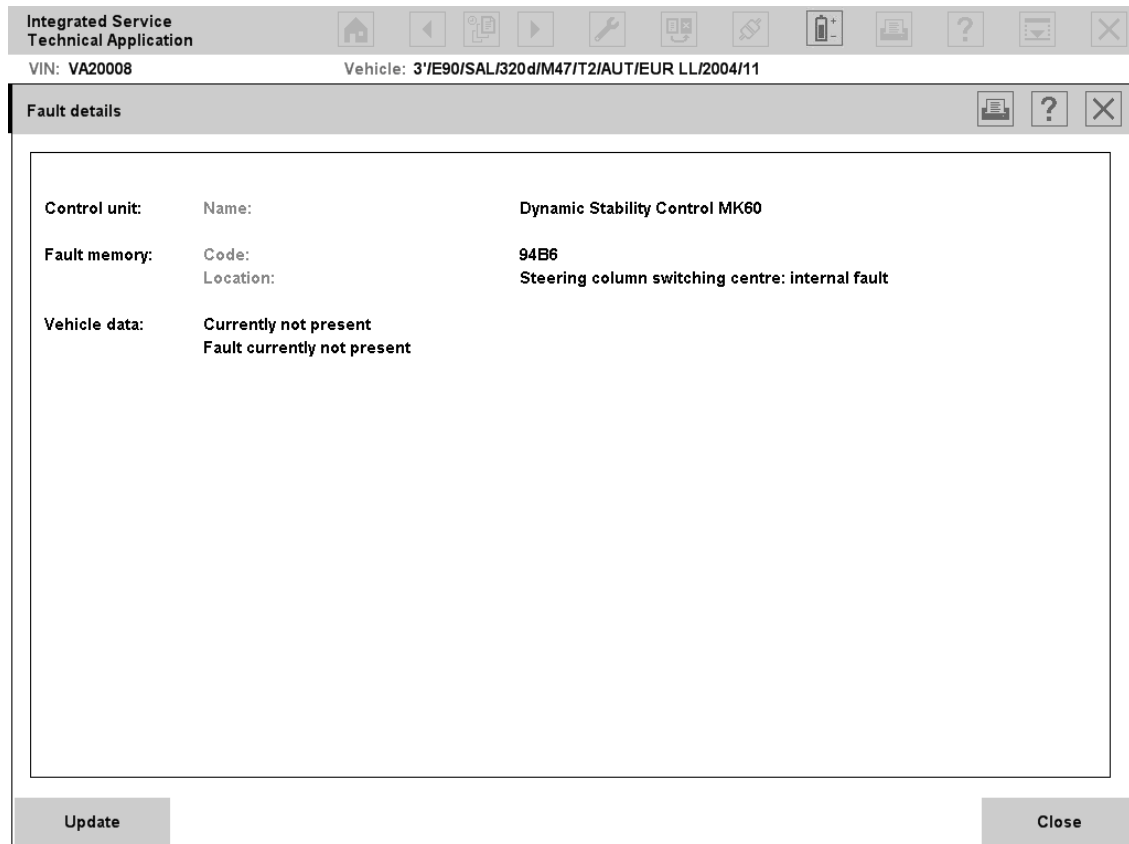

Fig. 3.27 "Fault details" mask
- ◇ **Display detail table:** Choose a line and then click this button. You will then obtain the detailed information on a fault (Fig. 3.27). If there are several results for the ambient conditions, then only the first and the last information block will be displayed.